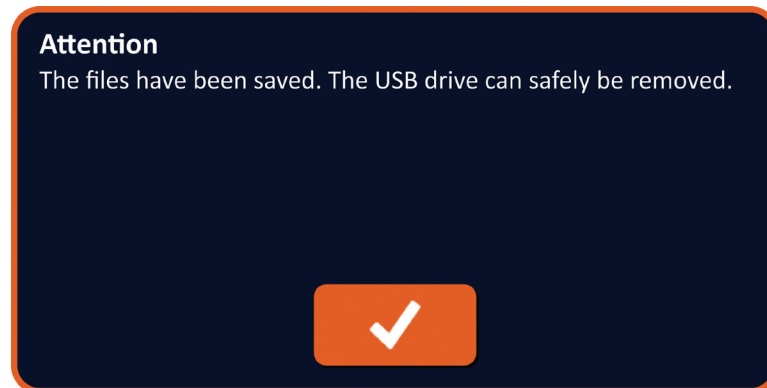

Figure 9.1.4: Procedure Files Saved Popup
4. Click the  button to save a copy of the procedure files to the USB storage device and close the Export dialog box. Once the files have been exported, an Attention popup is displayed, Figure 9.1.4 and the USB storage device can safely be removed.